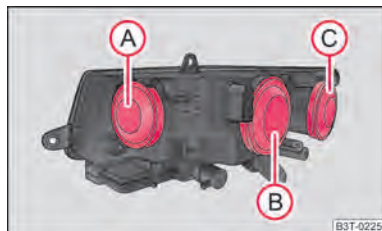

Fig. 203 Front headlight: Fitting position of the bulbs
Positions of the light bulbs in the front headlight ⇒ fig. 203.
- Remove the protective cap (A) ⇒ fig. 203.
- Remove the protective cap (B) ⇒ fig. 203.